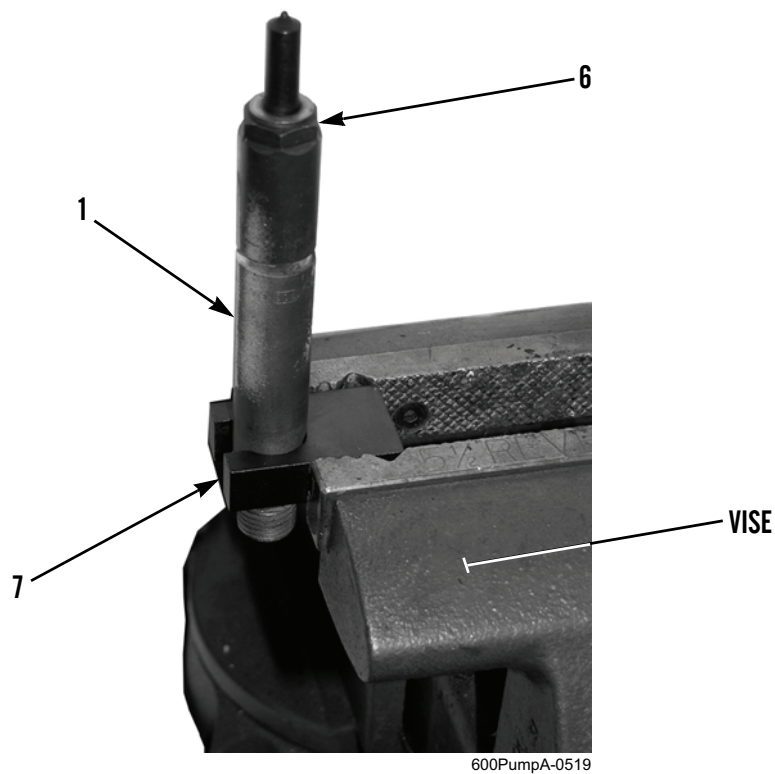

Figure 2. Releasing Pressure From Fuel Injector.
1. Place holder (Figure 2, Item 7) in vise and insert fuel injector (Figure 2, Item 1) into holder. Release nozzle tensioning nut (Figure 2, Item 6) approximately 180 degrees to release pressure. Retighten nozzle tensioning nut.